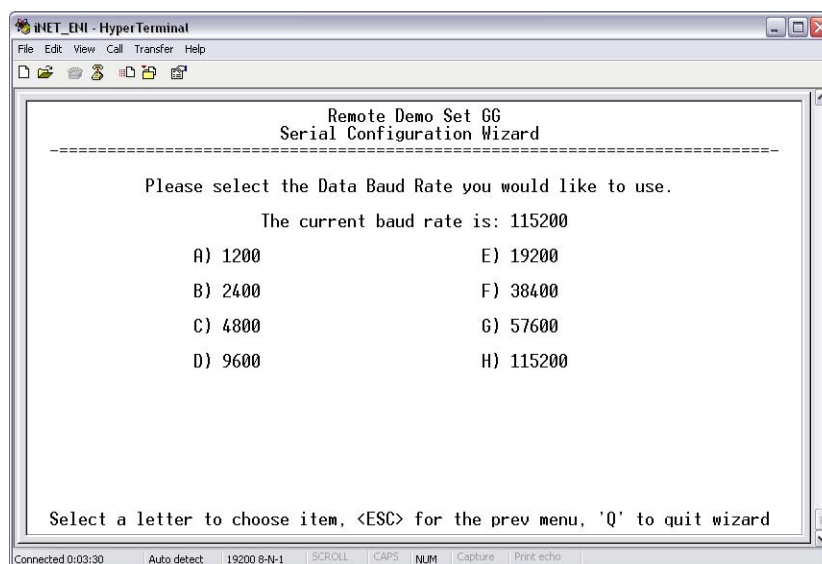

Figure A-14. Select Data Baud Rate
3. Press **A** through **H** to select the desired data baud rate. See Figure A-14.